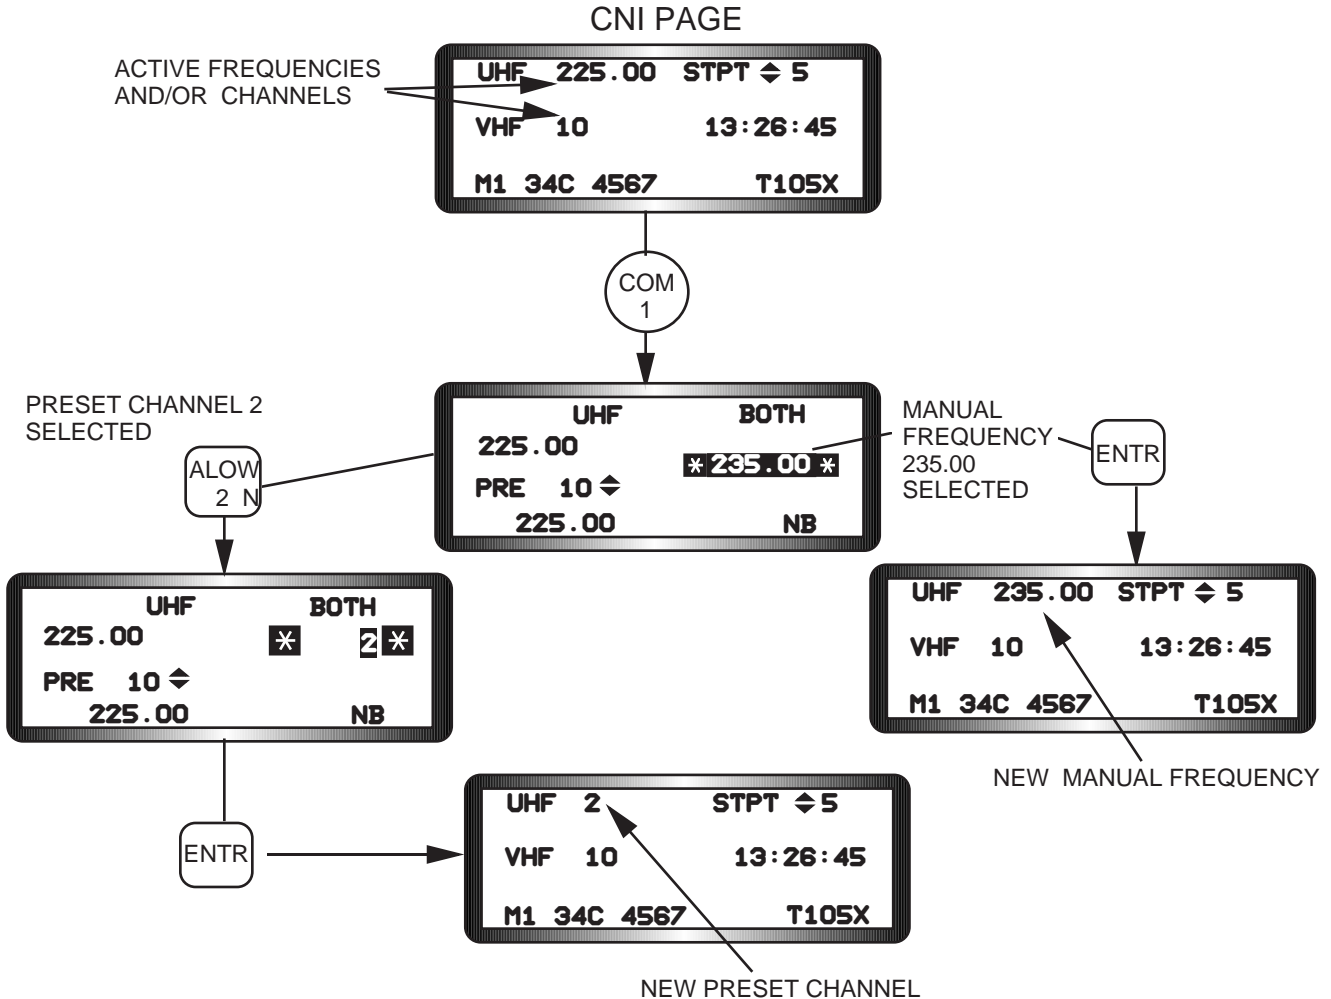

Figure 1-46 Manual Frequency and Preset Channel Selection Procedures
**Scratchpad.** The pilot changes preset channels or manual frequencies using the scratchpad (Figure 1-46). Channels are changed by keying in the one- or two-digit channel and ENTR. Manual frequencies are selected by keying in the appropriate five-digit number and ENTR. The pilot does not need to key in trailing zeros for manual frequencies. For example, the pilot keys in the three digits 2,5,5, and depresses the ENTR button to select 255.00 MHz. The system automatically places the decimal and trailing zero(s) in the proper positions.